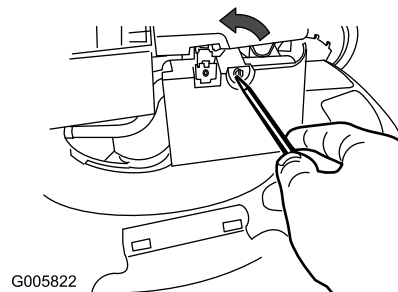

Figure 24
1. Use a screw driver to open the air filter cover (Figure 24).